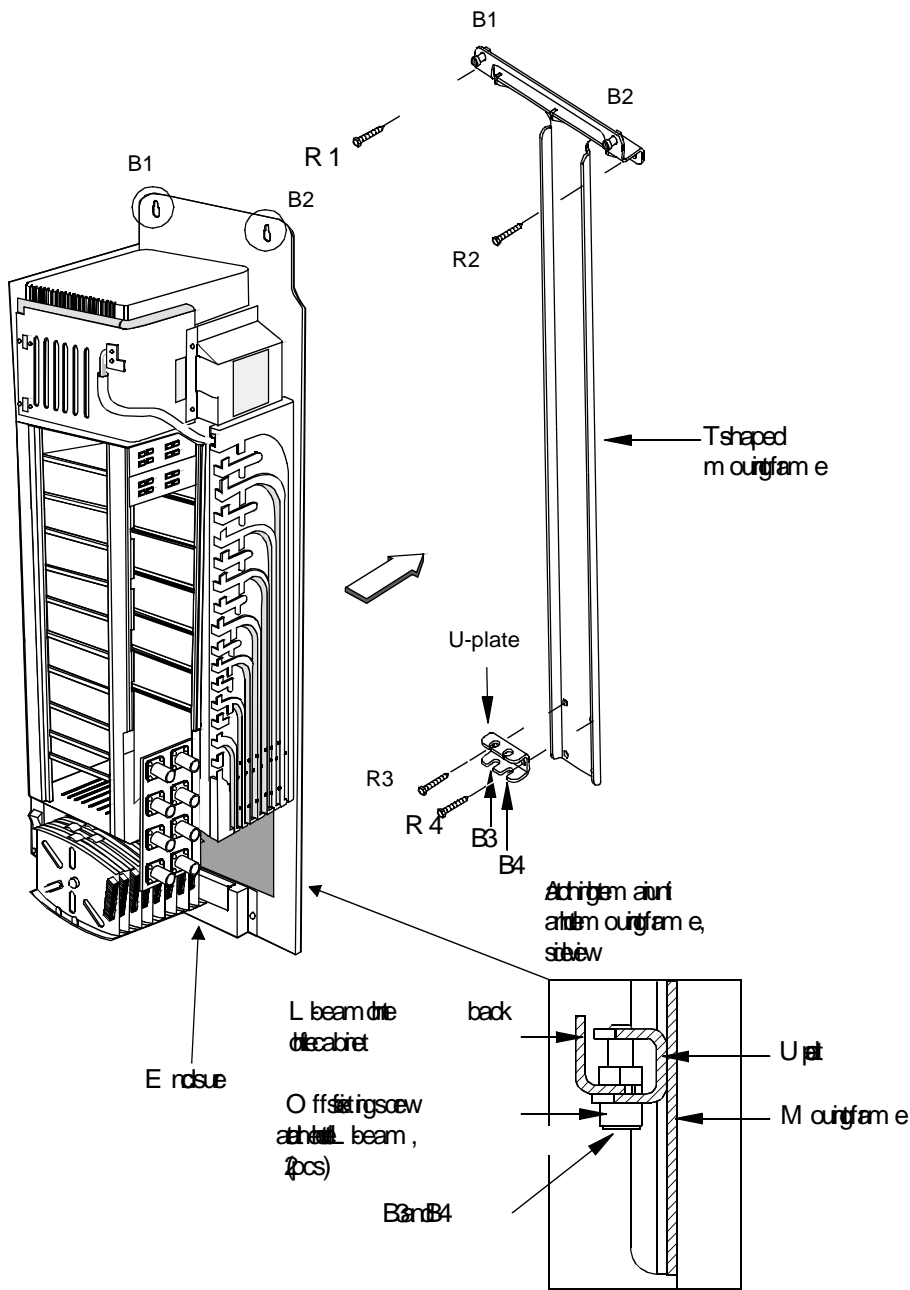

Figure 4. Mounting unit
7. Insert the M4 x 20 mm Allen screws to the upper fixing holes in the mounting frame (B1 and B2 in Figure 4).
10. Tighten the upper MU fixing screws (B1 and B2 in Figure 4).